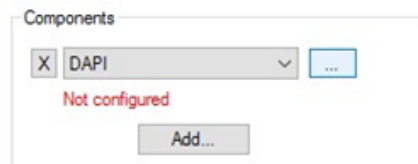

FIGURE 13.2. Adaptive Cell Segmentation components.
2. To add the image components that are to be used for segmentation, click Add, and then select the image component name on the drop-down list. (See Figure 13.2.)